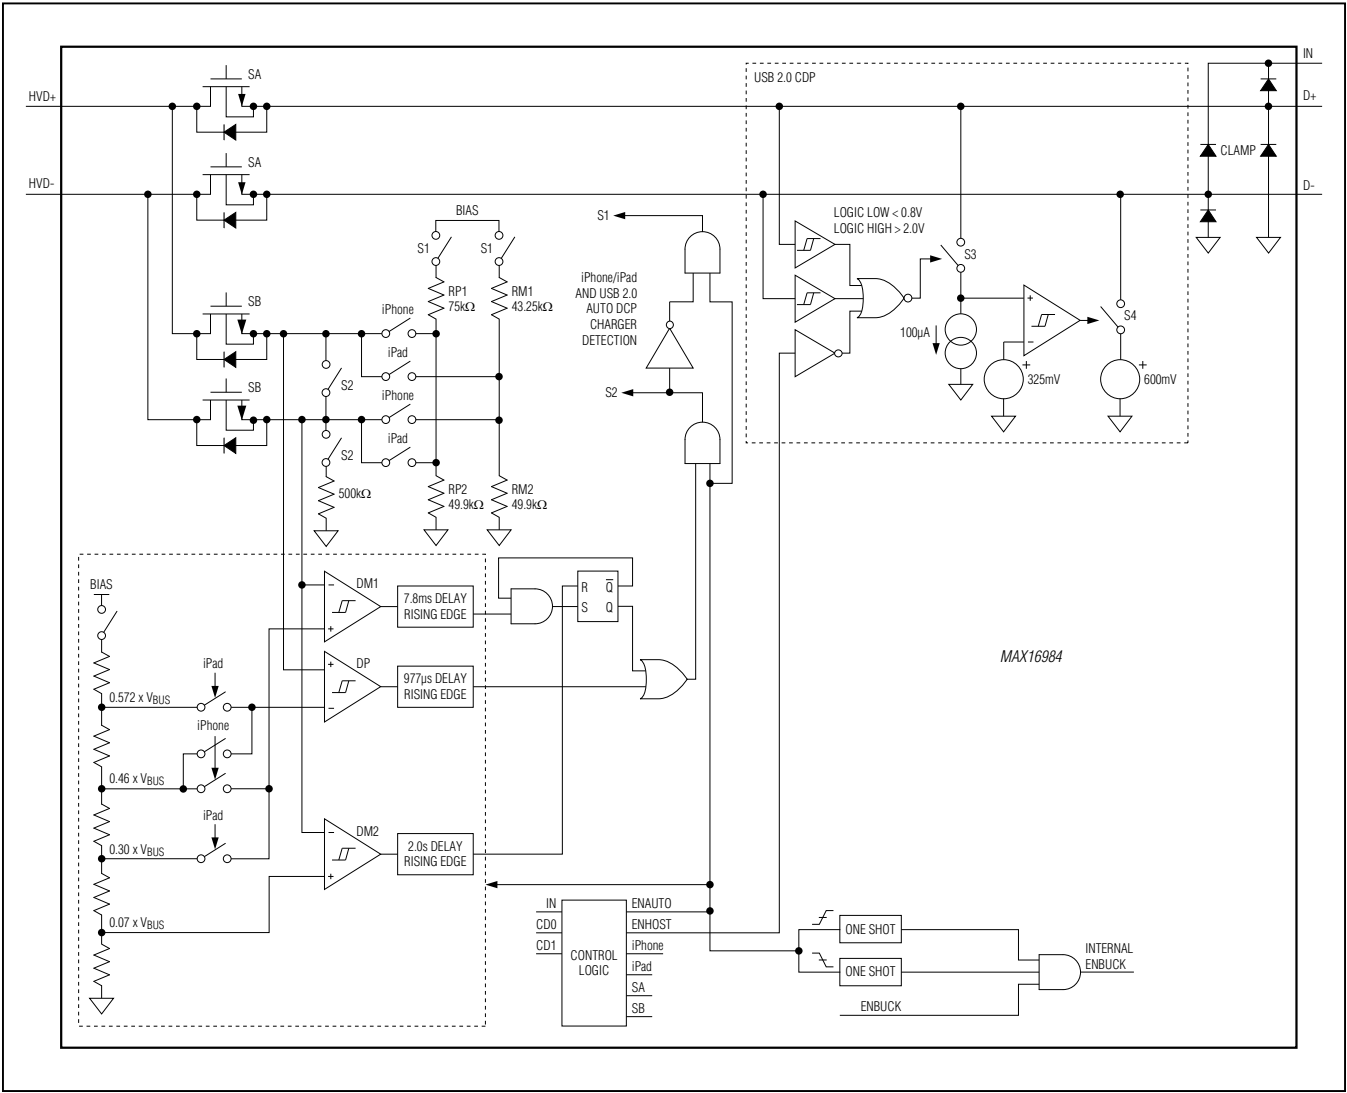

Figure 7. Data Switches and Host Adapter Emulator
a logic-level low/high for USB low-speed (LS) and USB full-speed (FS) data transmission and charging downstream port (CDP) mode. See Table 1 for CDP mode and Figure 7 for a detailed description of all modes.
After a USB-compliant portable device detects  $V_{BUS}$ , it is allowed to check if the host device is a CDP by applying a voltage to HVD+ and checking the voltage on HVD-. At this time, it is assumed that HVD+ and HVD- are logic-low, which means that the voltage is less than 0.8V. Then the port-detection circuit is enabled and switch 3 is on (Figure 7). The portable device then drives HVD+ to 0.6V (typ). The comparator closes switch 4 and the HVD- line is then driven to 0.6V (typ). The portable device can now detect that it is connected to a charging port.
provide the proper Apple-compliant iPad bias voltage. Data switches SA are opened and switches SB are closed (Figure 7). Initially, the iPad termination resistors are presented on the HVD+/- pins, the MAX16984 then monitors the voltages at HVD+ and HVD- to determine the type of device attached.
The MAX16984 features an iPhone/DCP auto-detection mode for emulating dedicated iPhone 1.0A charging and USB-IF DCPs. CD1/CD0 must be set high/high to activate iPhone/DCP auto-detection mode. In this mode, the high-voltage-protected HVD+ and HVD- pins are disconnected from the low-voltage D+ and D- pins and are initially connected to internal resistor-dividers to provide the proper Apple-compliant iPhone bias voltage. Data switches SA are opened and switches SB are closed (Figure 7). Initially, the iPhone termination resistors are presented on the HVD+/- pins. The MAX16984 then monitors the voltages at HVD+ and HVD- to determine the type of the device attached.